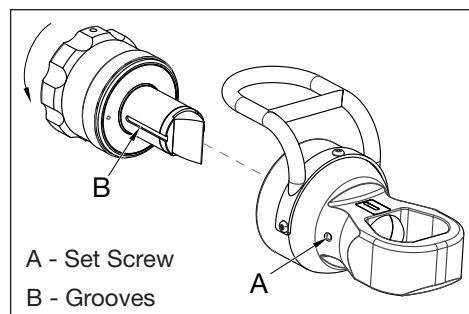

Figure 2: Assembling the Cylinder and Cutting Head
2. Loosen the set screw (Figure 2, item A) located on the cutting head body.
3. Insert the cylinder into the head, aligning the axial slot in the blade carrier (Figure 2, item B) with the set screw (Figure 2, item A) in the cutting head bore. Once aligned, rotate the cylinder in the direction shown in order to engage the screw threads.
3. If tight, loosen the set screw located on the cutting head barrel. See Figure 2, item A.
3. If tight, loosen the set screw located in the barrel portion of the cutting head. See Figure 2, item A.